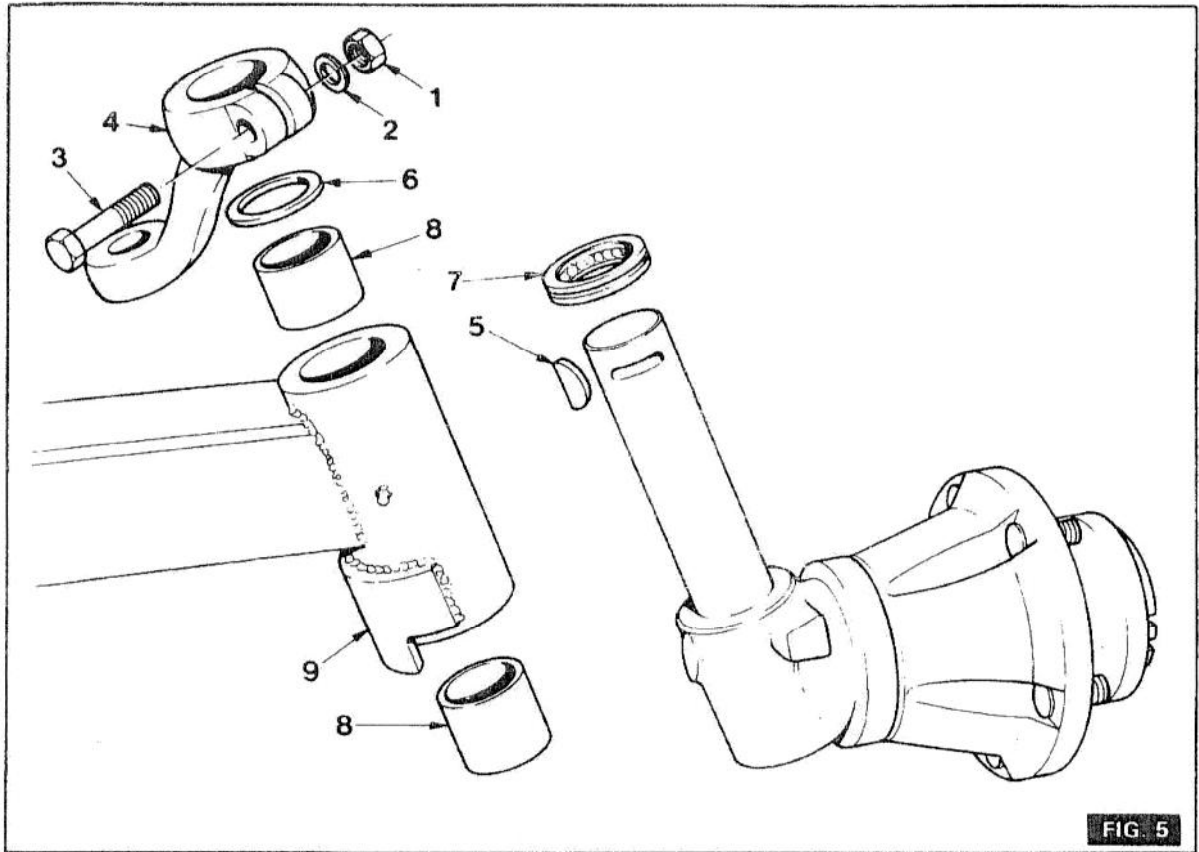

FIG. 5
3. (Fig. 5) Remove the nut (1), washer (2) and bolt (3) from the steering arm (4).
5. Support the weight of the king pin and hub, remove the Woodruff key (5) and slide the felt seal (6) off the pin.
8. Remove the thrust bearing (7).
9. To ream the king pin bushes (8) use special tool MF 264/7.
1. (Fig. 5) Reverse the procedure in operation 5A/5 to refit the king pin and steering arm. Tighten the steering arm securing nut (1) to a torque of 90–100 lb. ft. (12.45–13.83 kgm). A clearance of .004 in. (.101 mm) maximum should exist between the lower face of the steering arm (4) and the top of the king pin housing (9) when the unit is fully assembled and resting on the ground. The bolt (3) should be replaced with the head nearest to the tyre.